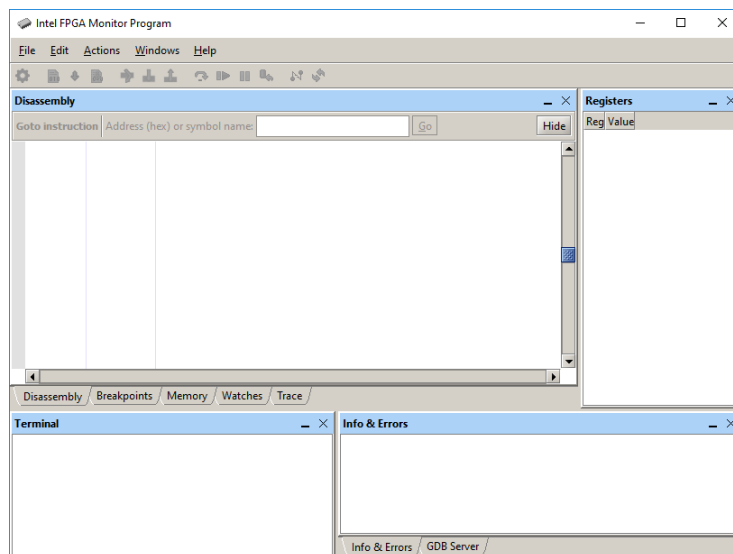

Figure 1: The Monitor Program window.
2. Open the Monitor Program software, which leads to the window in Figure 1.